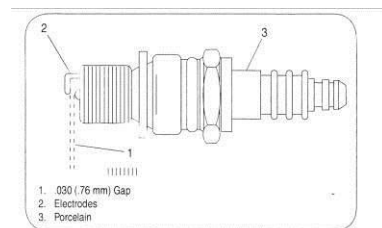

Figure 28
4. Check electrode gap with a feeler gauge and set gap to 0.030(0.76mm) if necessary. See Figure 28.